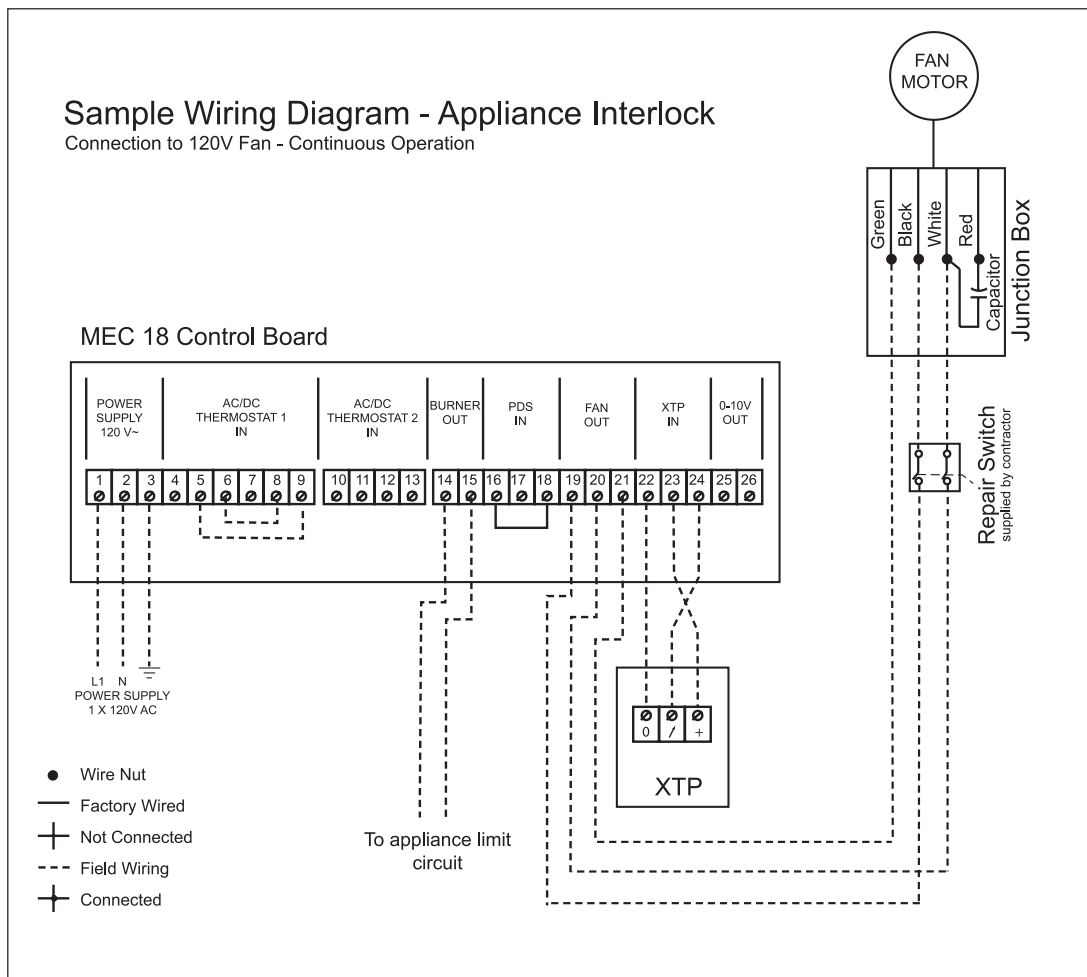

Fig. 7
- ♦ If using a 1 x 120 V fan, connect it to terminals 19, 20 and 21. Refer fig. 7 and the fan's installation manual